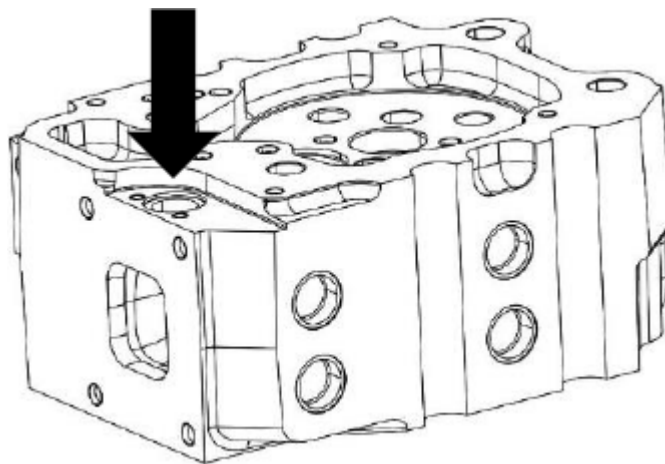

Figure 59. Cylinder Head outlet
2. Connect an air inlet onto the water outlet of the cylinder head. Immerse the cylinder head in a tank of water and increase pressure up to 73 PSI or 5 bar (Figure 59).